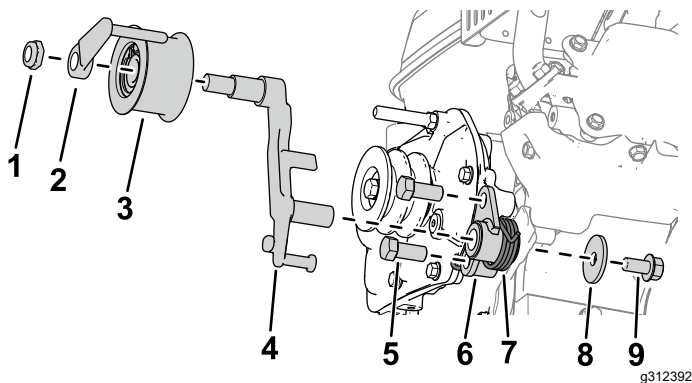

Figure 3
5. Install the clutch bracket to the gearbox with 2 bolts (7/16 x 1 inch) as shown in Figure 3.
6. Install the clutch lever to the clutch bracket (Figure 3).
7. Install the torque spring to the clutch bracket with a washer (3/8 x 1-3/8 inch) and a bolt (3/8 x 3/4 inch) as shown in Figure 3.
8. Install the idler pulley assembly to the clutch lever with a belt guide and a hex nut (Figure 3).